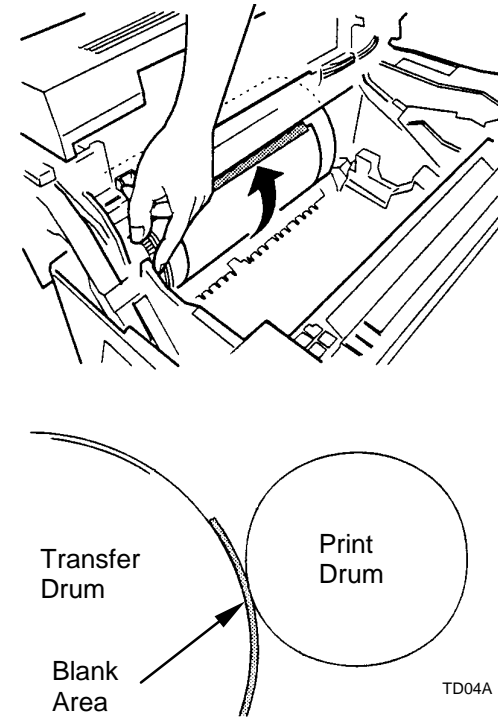

Figure 2. Positioning the Transfer Drum
5. (Figure 2): Rotate the Transfer drum until the paper is positioned with a blank area opposite the Print Drum as shown.